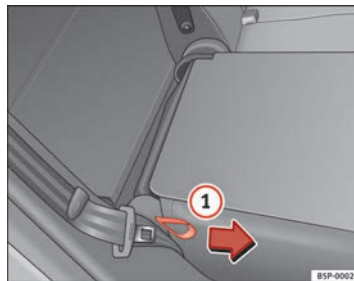

Fig. 101 Folding or opening the front seat backrests
- Pull the loop on the side of the seat ⇒ fig. 101 ① in the direction of the arrow and lift the seat backrest into position.